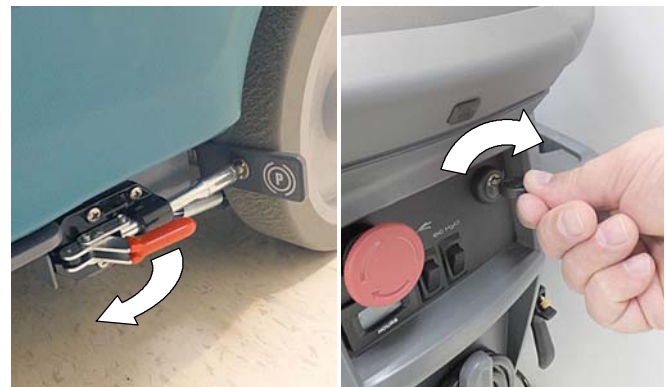

FIG. 74
1. Release the parking brake lever, if equipped (Figure 74).
2. Turn the key to the on (I) position (Figure 74).